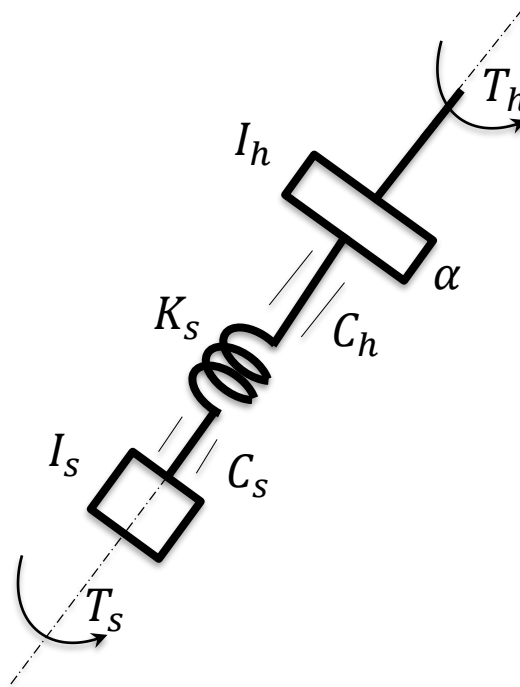

Figure 2 Steering system model
- From Fig.2:
- From Fig.2, the steering system equation of motion at the steering wheel transferred around the kingpin can be expressed as: